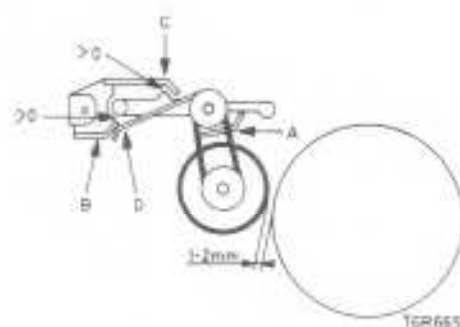

Fig. 3
- Loosen the 3 screws by means of which lower bearing bracket 67 of the flywheel is fixed to the mounting plate (see Fig. 3).
When fitting lower bearing bracket 67 of the flywheel make sure that the cord grooves of flywheel 66 and of capstan idler 63 should be level. The height of the flywheel can be adjusted by means of a screwdriver through the triangular hole in lower bearing bracket 67, as shown in Fig. 3.
- Loosen the 3 screws by means of which lower bearing bracket 67 of the flywheel is fitted to the mounting plate (see Fig. 3).
When refitting these parts make sure that the tag of capstan idler bracket 63 engages the hook of wire spring 66. After fitting lower bearing bracket 67 the cord grooves of flywheel 66 and capstan idler 63 should be level. The flywheel can be repositioned by means of a screwdriver through the triangular hole in lower bearing bracket 67, as indicated in Fig. 3.